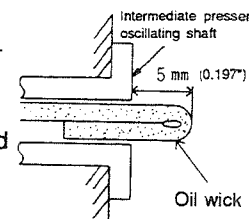

Fig. 5-51-5
- Assemble the intermediate presser bar, intermediate presser guide bracket and the intermediate presser adjusting screw, referring to steps 1) and 2) of the "STANDARD ADJUSTMENTS (20) Intermediate presser."
- Apply grease to the abrasive part of intermediate presser link (A), the intermediate presser L-shaped link, intermediate presser link (B), the intermediate presser positioning link and the intermediate presser guide bracket.
- Fix the intermediate presser rod bracket referring to step 4) of the "STANDARD ADJUSTMENTS (20) Intermediate presser."
- Install the intermediate presser rod connecting shaft referring to the "STANDARD ADJUSTMENTS (21) Vertical stroke of the intermediate presser."
- When fixing the intermediate presser cam in its standard position, refer to steps 2) and 3) of the "STANDARD ADJUSTMENTS (20) Intermediate presser."
- Pass oil wick ④ through the intermediate presser oscillating shaft. Then fold the end protruding from the shaft, and insert the folded end into the shaft as shown in Fig. 5-51-5.